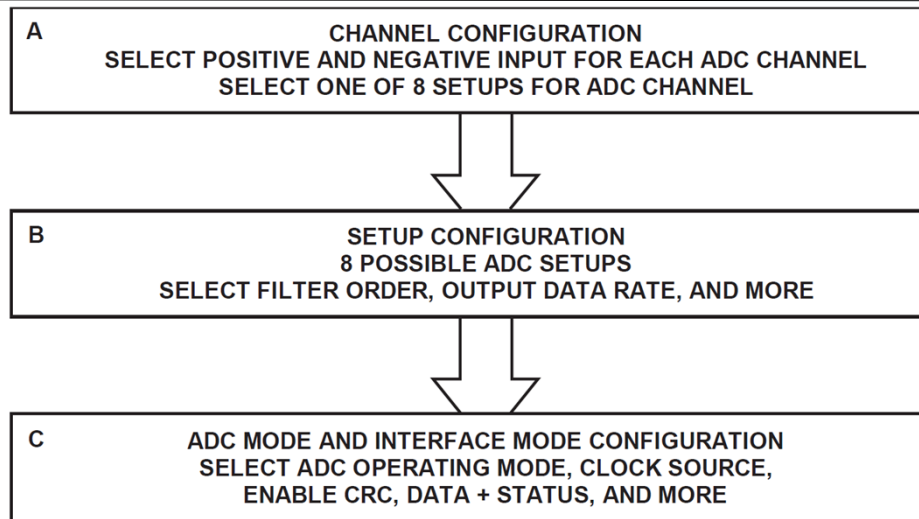

Figure 29. Suggested ADC Configuration Flow
Figure 29 shows an overview of the suggested flow for changing the ADC configuration, divided into the following three blocks:
- Channel configuration (see Box A in Figure 29)
- Setup configuration (see Box B in Figure 29)
- ADC mode and interface mode configuration (see Box C in Figure 29)